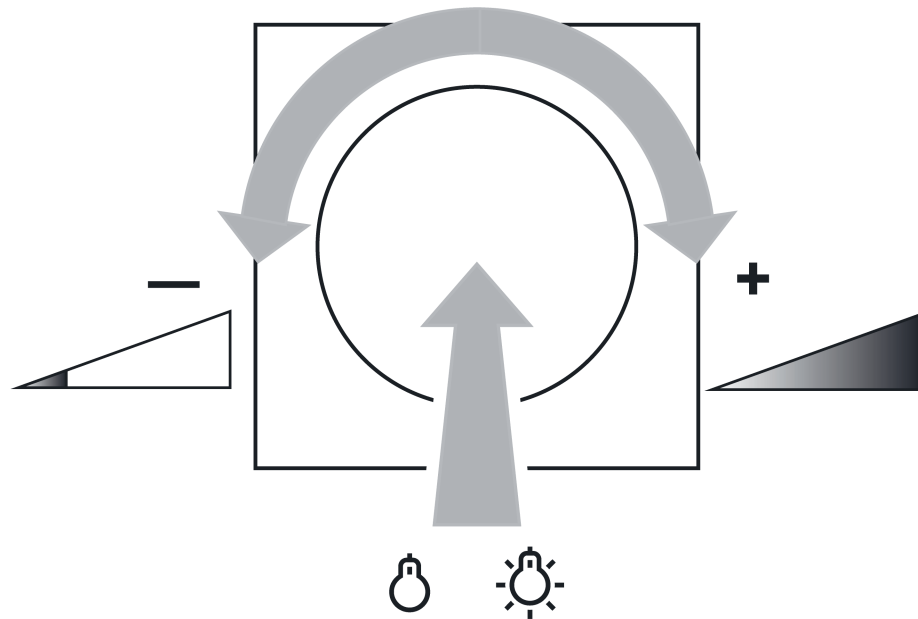

Figure 1: Switching light or adjusting brightness
- Press the setting knob briefly: Light switches on or off (figure 1).
- Turn the setting knob quickly: Brightness is changed quickly (figure 1).
- Turn the setting knob slowly: Brightness is changed slowly (figure 1).